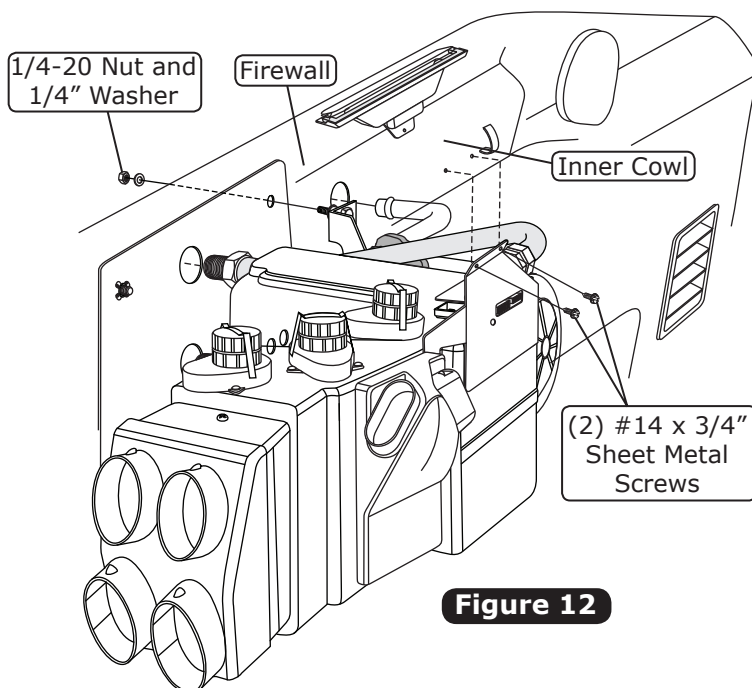

Figure 12
1. Lift the evaporator unit up under the dashboard, and secure it loosely to the firewall from the engine compartment using a 1/4-20 nut and a 1/4" washer as shown in Figure 12, below.
2. Using (2) #14 x 3/4" sheet metal screws, secure the front evaporator mounting bracket to the inner cowl (See Figure 12, below). **NOTE: To ensure proper drainage, it is very important that the evaporator is level, both left-right and fore-aft. Check for level on the flat portions of the case around the drain.**